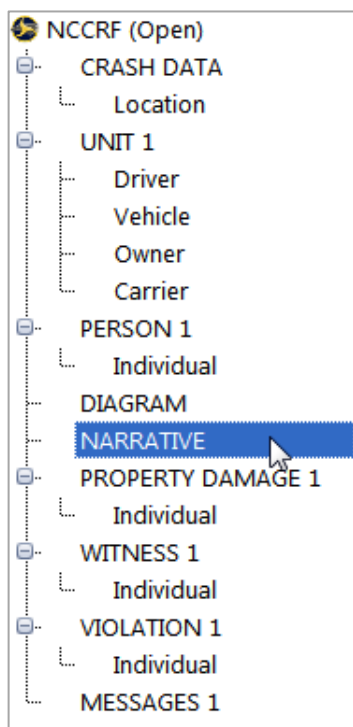

Figure 51. Narrative Selected in Navigation Tree
1. Select **NARRATIVE** in the Navigation Tree, as shown in Figure 51.